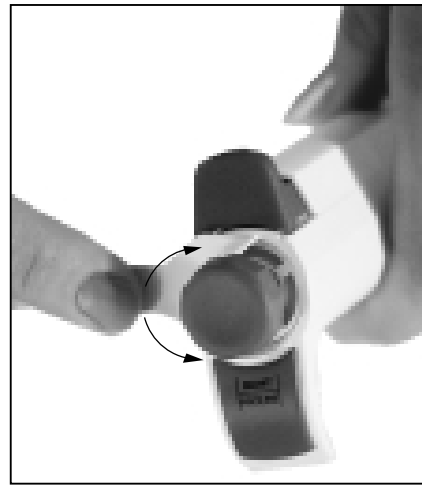

Fig. 10
1. Place the calibration tool into the holes of the calibration adjustment lock (under the operating button) (Fig. 10).